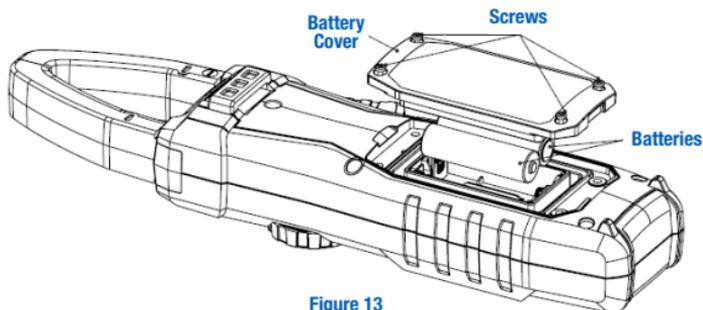

Figure 13
3. **Battery replacement (Figure 13)**